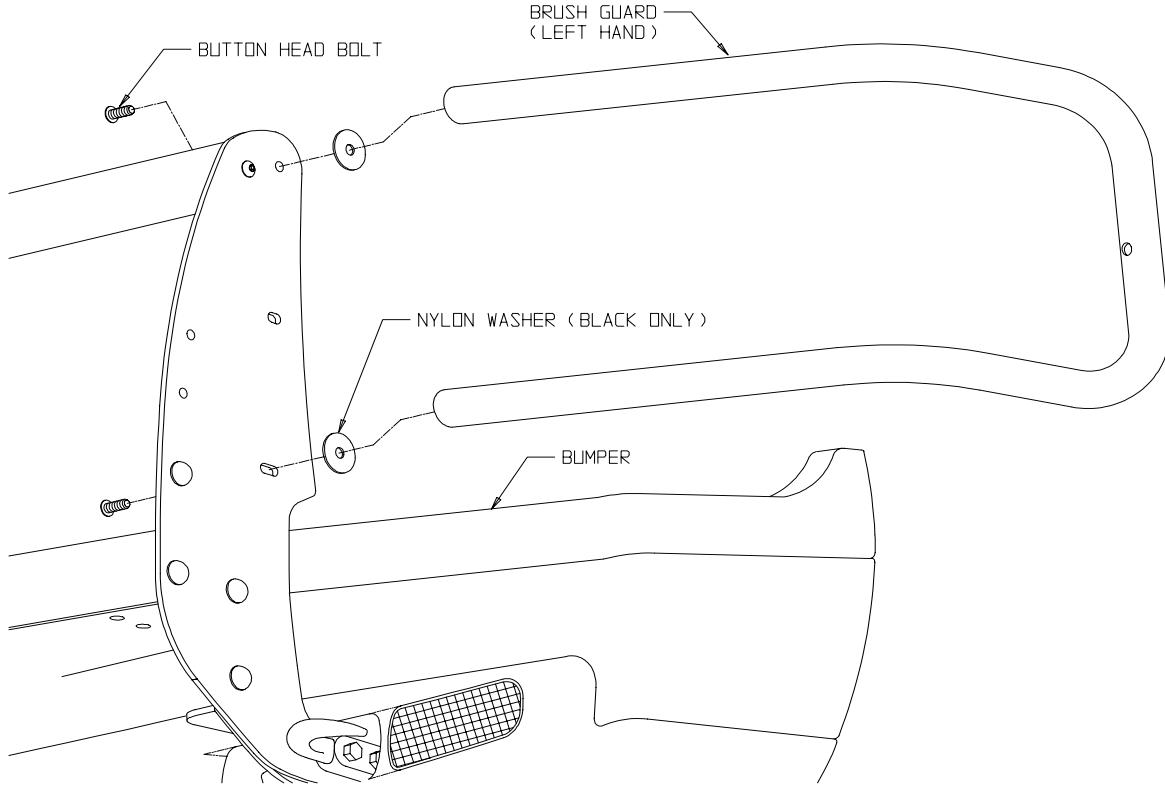

Figure 1: Install Brush Guard.
1. Install the Brush Guards onto the side plates of the Trans4mer Grille Guard as shown in **Figure 1**. Adjust outer ends for best alignment with lights and bumper. Tighten securely.